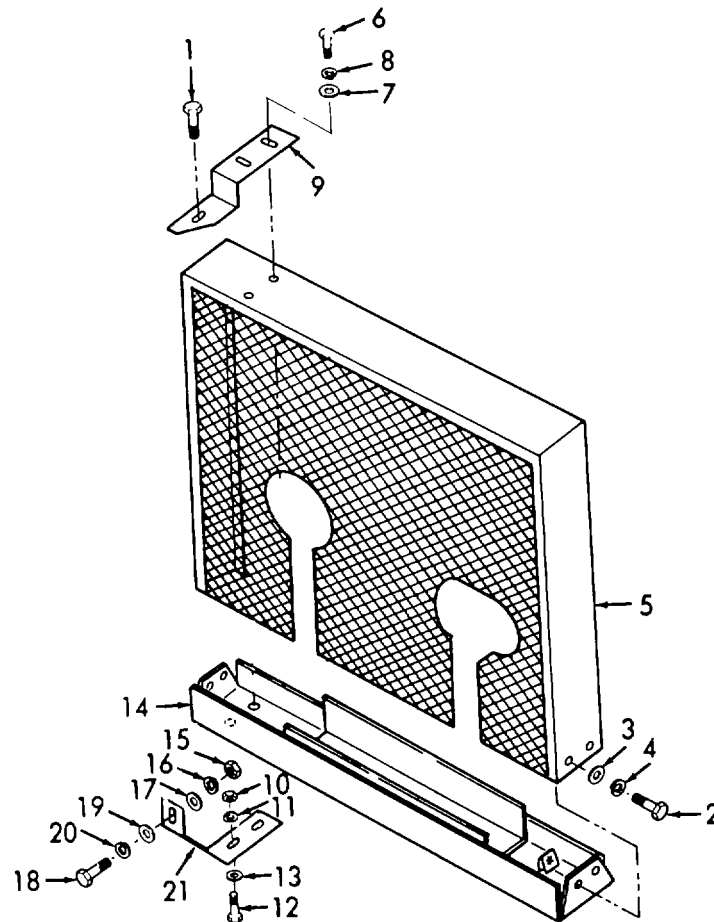

Figure 3-12. Guard Assembly, Installation.
e. *Installation.* (Refer to Figure 3-12).